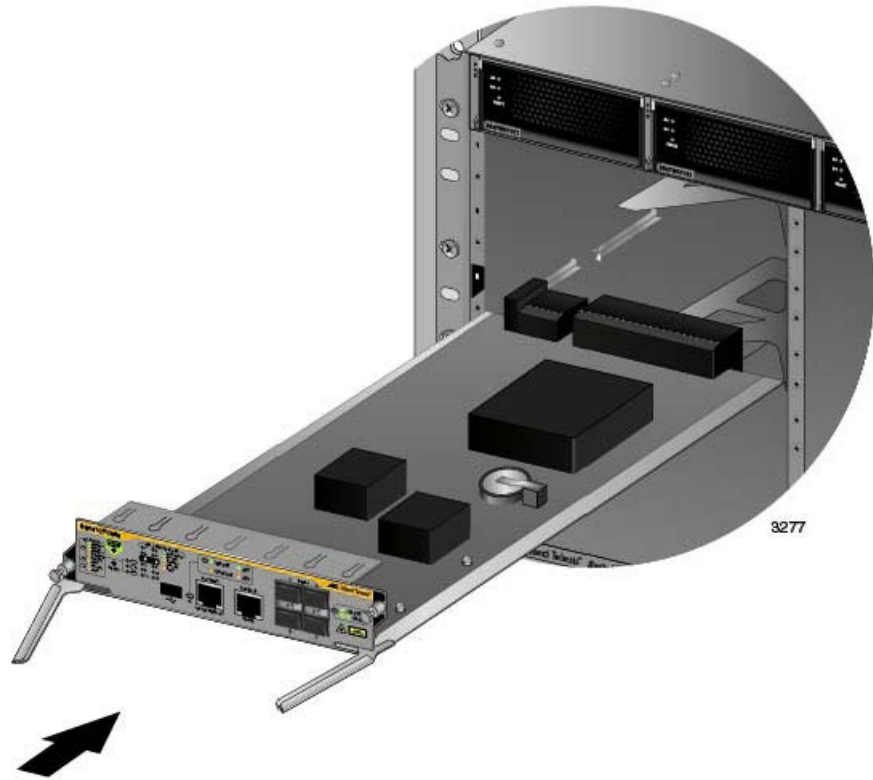

Figure 68. Aligning the AT-SBx81CFC960 Card in the Chassis Slot
6. Align the edges of the AT-SBx81CFC960 Controller Fabric Card with the internal chassis card guides in slot 5 or 6 of the AT-SBx8112 Chassis. Figure 68 on page 131 shows the AT-SBx81CFC960 Card aligned in slot 5.